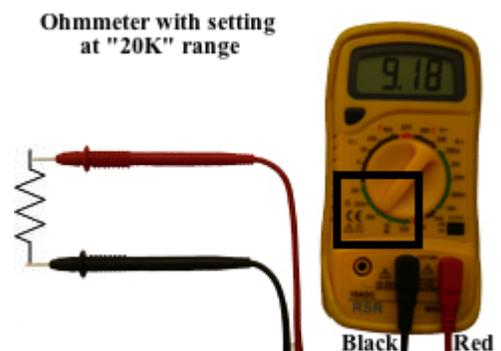

Figure 2.7: Using Digital Multimeter
4. Put the leads from the DMM on each side of the component being measured as shown in Figure 2.7. If the DMM screen displays “1. ”, this indicates that the range setting should be higher or the resistance is more than the maximum which can be measured on the range setting. For example, the Ohmmeter’s rotary switch is at the “2k” mark. It should be changed to “20k” for a proper reading. If the DMM screen displays “.000”, this indicates that the range setting should be lower. For example, the Ohmmeter’s rotary switch is at the “200k” mark. It should be changed to “20k” for a proper reading. Continue adjusting the range setting as necessary.
5. For reading the value, each range of the Ohmmeter has a letter indicating the prefix for the unit. For example, the range setting of “20k” indicates that the unit is in Kilo  $\Omega$ . Figure 2.7 shows that the Ohmmeter is set at “20k” range, the reading on the screen is “9.18.” This means the resistance should be roughly 9.18K $\Omega$ .